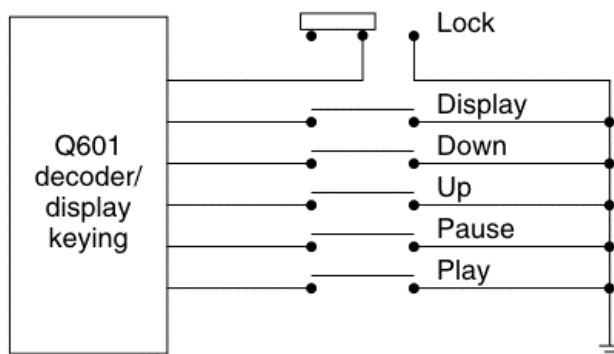

FIGURE 30-26 The keyboard switches are connected to common ground at Q601.
- **The Play/Repeat button** This starts the disc to play and repeat the disc-playing action (S601). The Pause/Stop switch (S602) stops the disc from playing for a moment or until the Play button is pushed again (Fig. 30-26). In some models, a Play/Pause key does the same functions. The Up (S604) and Down (S603) switches search for a particular section of the disc. A Mode or Search button, in some models, accomplishes the same thing. In other models, the automatic music sensor (AMS) switch is used to locate the beginning of the desired selection in either direction. Sometimes during pause, you can go back or advance faster than during playback.